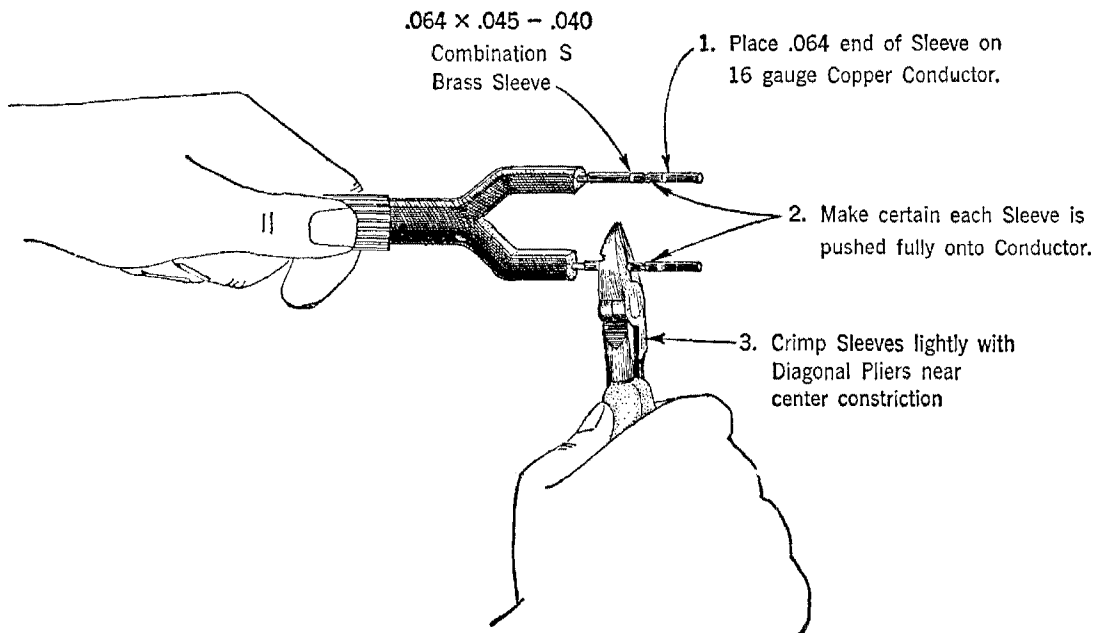

Fig. 2
3.01 Place the 064 end of an 064 × 045 — 040 Combination S Brass Sleeve on the 16-gauge copper conductors of B or C Underground Wire or the 154A Coil Case as shown in Fig. 2.